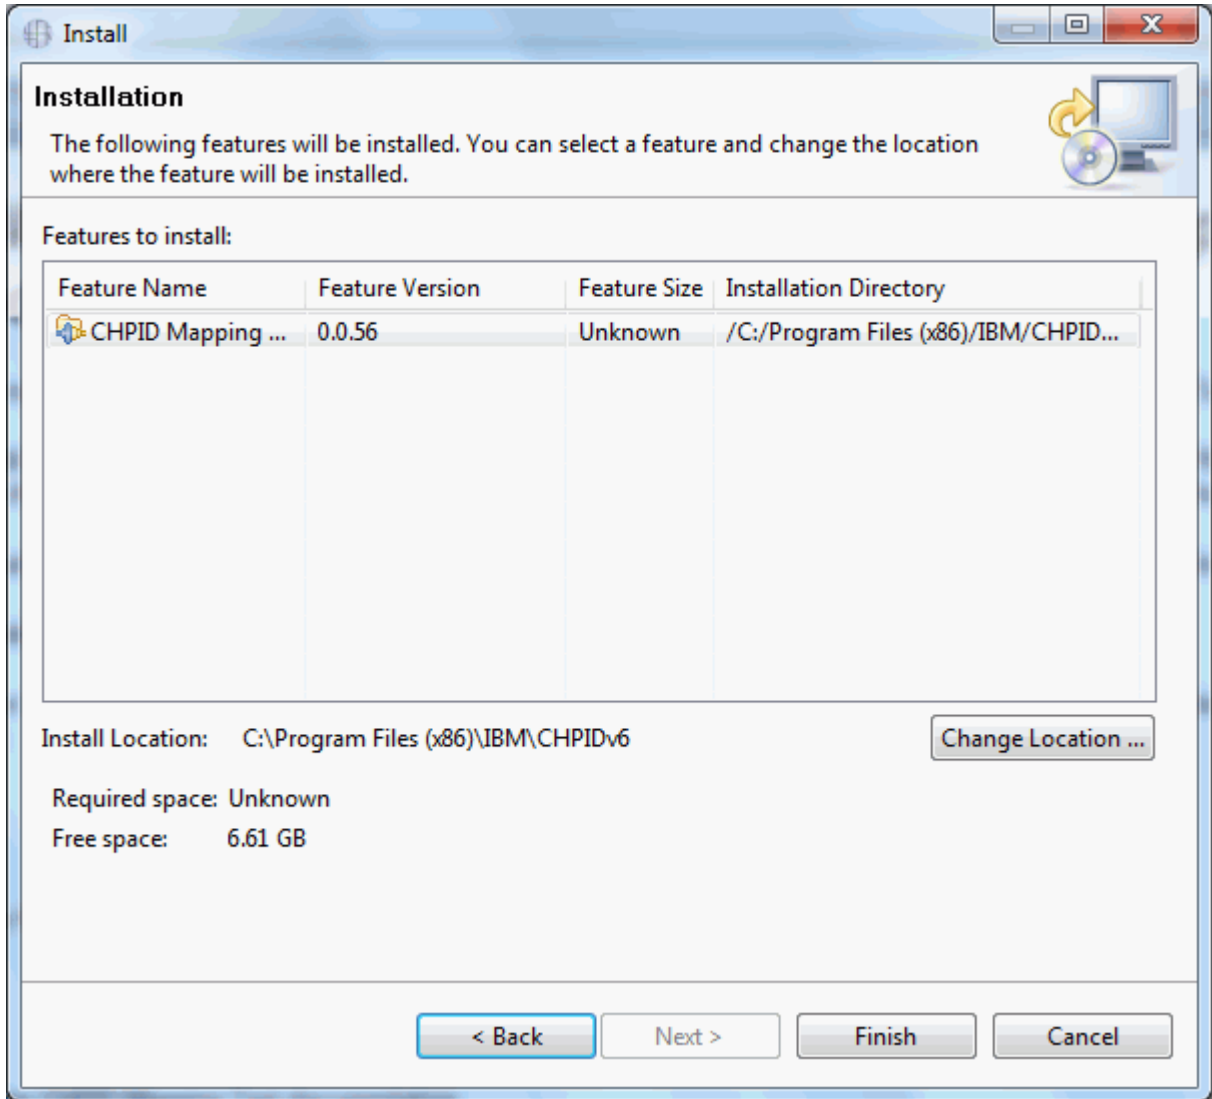

Figure 73. Install window - with installation information
6. Click to select I accept the terms of the license agreement. (Selecting a radio button makes **Next** available.) Click **Next**. The Install window displays installation information. Figure 73 on page 56 shows an example: